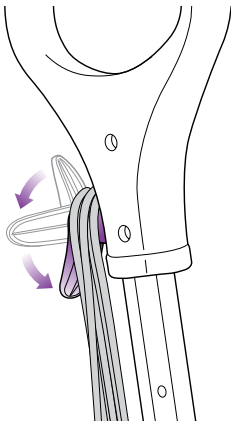

fig. 6
- 1 Pull and twist the quick release cord holder to unwrap the power cord completely. Plug into an electrical outlet. (**fig. 6**)